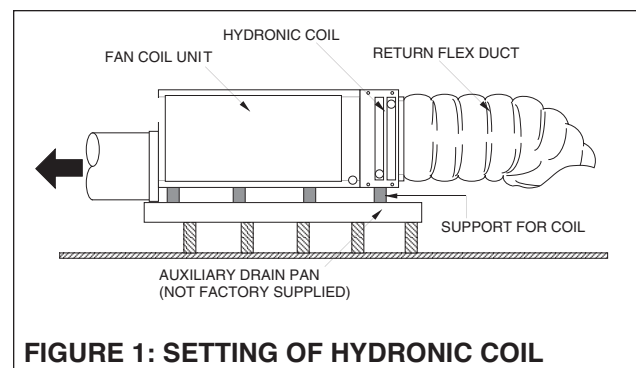

FIGURE 1: SETTING OF HYDRONIC COIL
1. (Recommended) Install an auxiliary drain pan with drain piping under the Hydronic Coil or under both the Fan Coil Unit and the Hydronic Coil as shown in Figure 1. The auxiliary drain pan should extend approximately 2 inches beyond the unit on all sides and be 1½ to 2 inches deep. The drain line should be properly trapped and pitched but do not connect it to the primary condensate drain line.